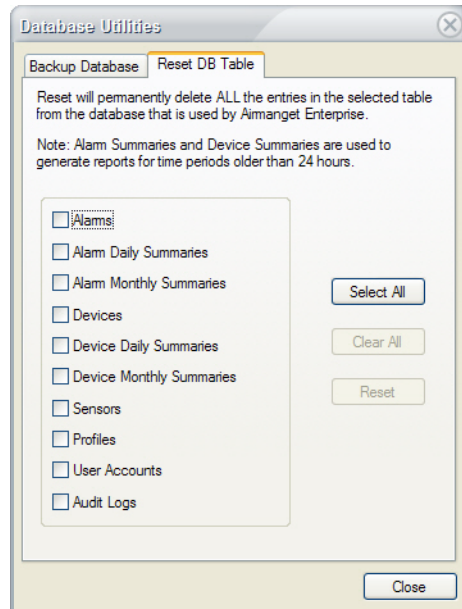

Figure 4-58: Resetting database table
- 1) From the Database Utilities dialog box, click the Reset DB Table tab. The dialog box refreshes. See Figure 4-58.